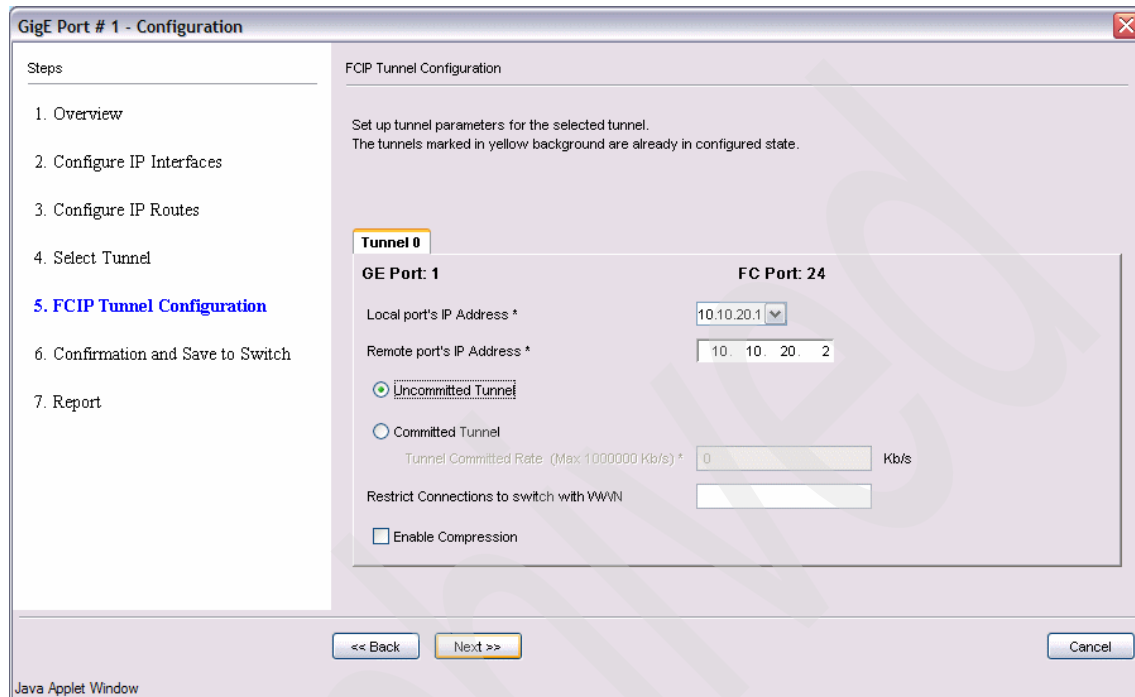

Figure 6-89 FCIP Tunnel Configuration
- Specify the tunnel settings: local and remote IP address and the commit rate. In addition, you can restrict connections to a particular switch and enable compression (Figure 6-89).